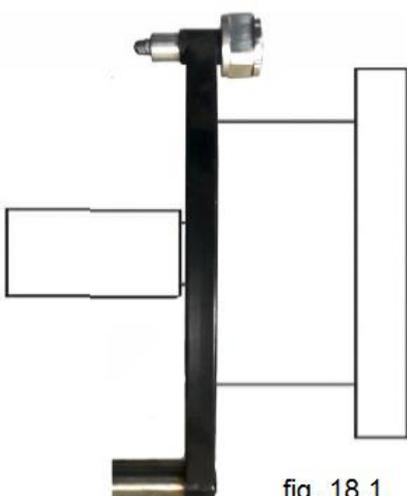

fig. 18.1
18.1.1. Calibration of the distance measuring channel. To evaluate the inaccuracies in measurement of the distance, pull out the gauge and press the side surface of its handle against the back end of the shaft flange, as shown on the fig. 18.1. The screen for input of the dimensions will display the value for the distance (refer to fig. 10.2). If the distance is not equal to 135 ± 5 mm, the distance input device needs to be calibrated.
pressing corresponding button in the top row of the keyboard. The window «CALIBRATION» will open. Select option 2 «Distance calibration» by pressing button 2 in the top row of the keyboard. This will open the window «DISTANCE CALIBRATION» (fig. 18.1).
Pull out the gauge and press the side surface of its handle against the back end of the shaft flange, as shown on the fig. 18.1 and press the button «ENTER». The item 2 «Insert the distance handle into the position 1 and press ENTER button» in the window «DISTANCE CALIBRATION» will be highlighted».